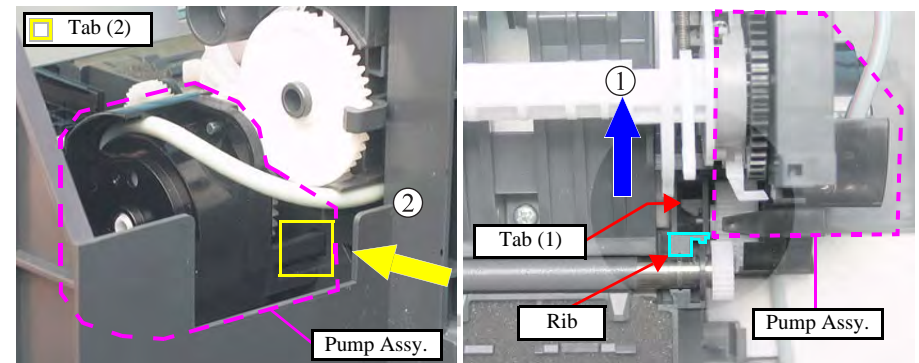

Figure 4-53. Removing Ink System (2)
1. Match the tabs (x2) of the Pump Assy with the positioning holes (x2) of the Frame Base. (refer to Figure 4-53)